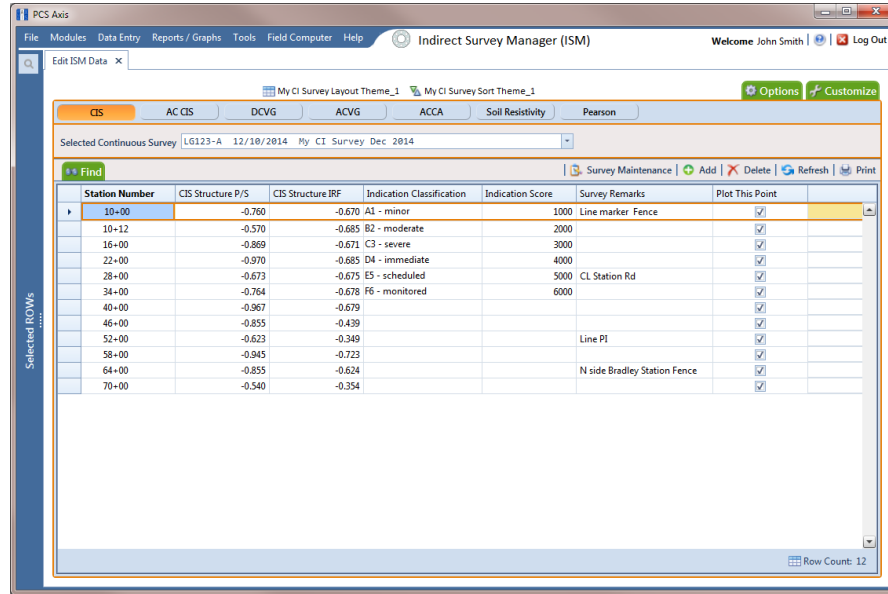

Figure 7-99. Edit ISM Data
- 3 Click **Data Entry > Edit ISM Data** to open the ISM data entry grid. Then click a button labeled with the type of continuous survey data you want to work with, such as the **CIS** button  (Figure 7-99).